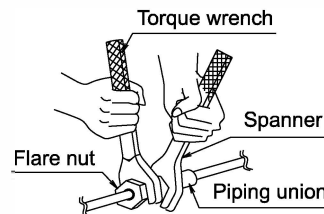

Fig. 6
(1) Connect the piping
- Be sure to use both a spanner and torque wrench together, as shown in the drawing, when connecting or disconnecting pipes to/from the unit. (Refer to fig.6)